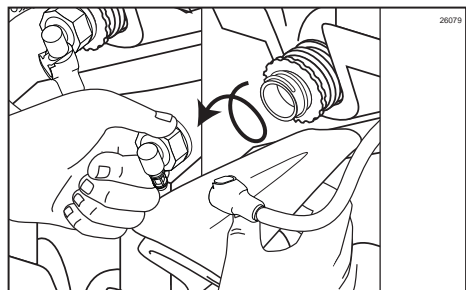

Figure 61
9. Using a single service towel beneath the fitment, remove the Syrup Bag Adapter from the syrup bag fitment. (See Figure 61.)